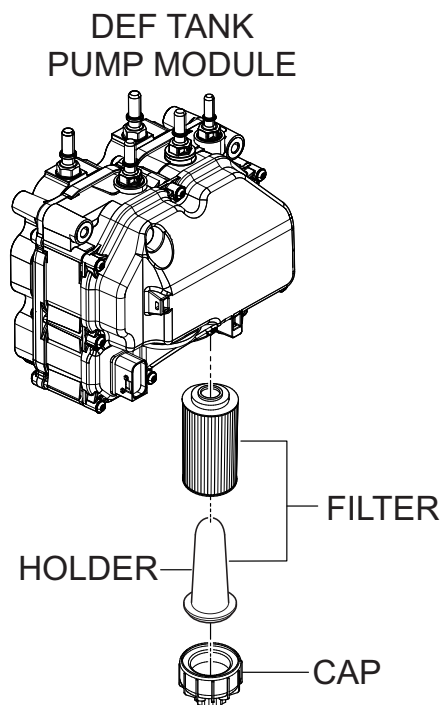

Figure 57. DEF Supply Module Filter
1. Remove cap (Figure 57) at the bottom of DEF supply module to gain access to the paper filter.